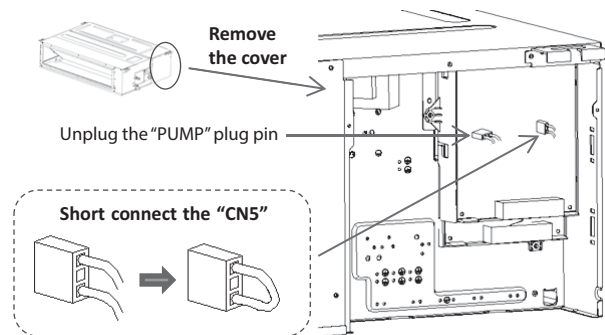

Fig. 22 – Unplug the PUMP Pin
- Open the cover of the E-Parts Box assembly, unplug the "PUMP" pin to disable the pump function, and short connect the "CN5" plug to disable the water level sensor (see Fig. 22 and Fig. 23).